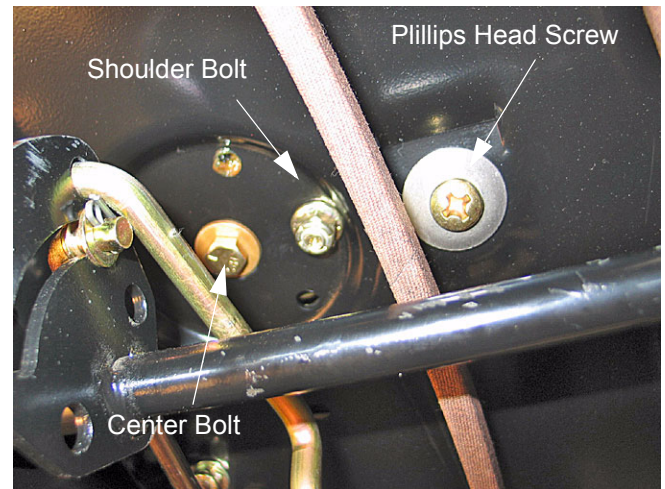

Figure 58
- 15.5. Working from under the tractor, use a #4 phillips bit on a socket to remove the screw securing the steering shaft through the frame. See Figure 58.